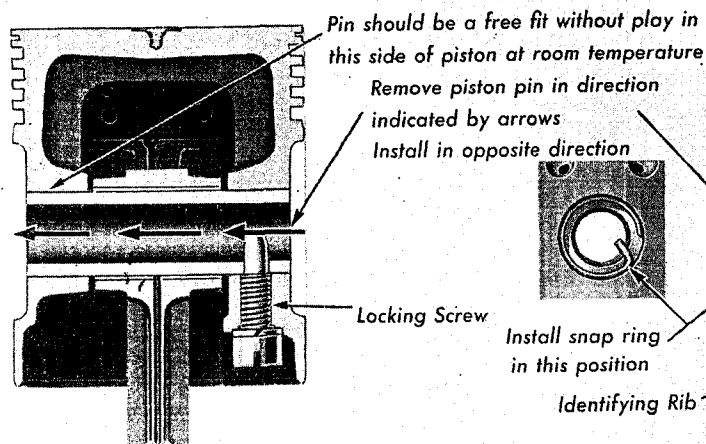

Fig. 10 Cross Section of Piston, Series 37-85 and 90
3. Push the piston pin out by hand from the locking screw side as shown in Plate 29, Fig. 10.
3. Push piston pin into piston by hand from the side opposite the locking screw. See Plate 29, Fig. 10.